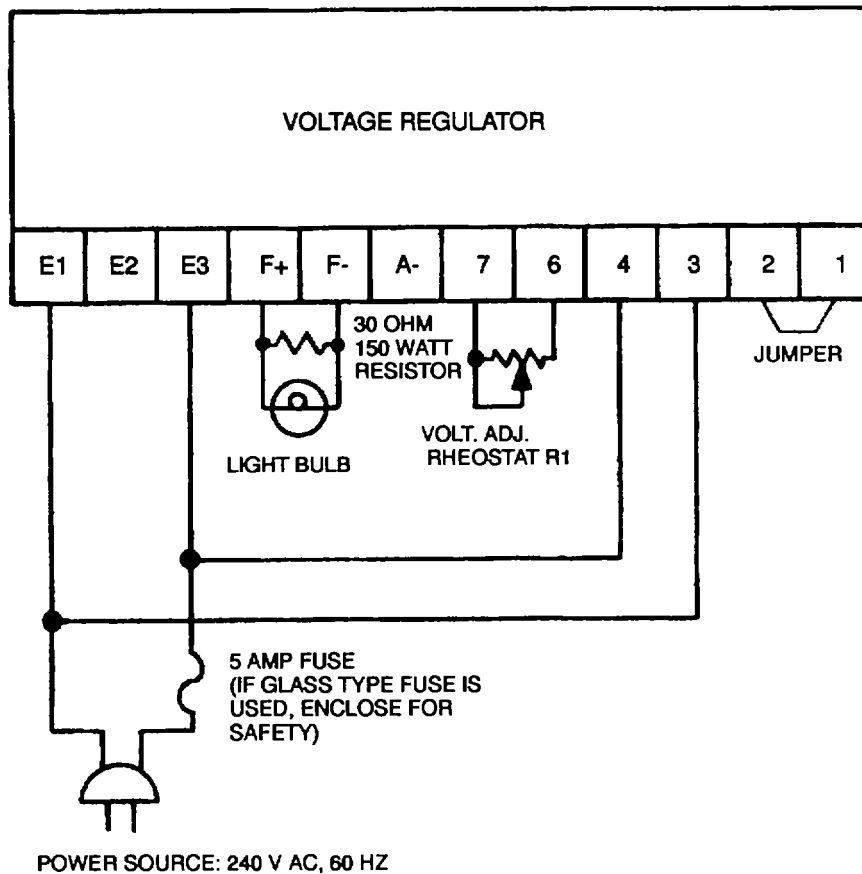

Figure 5-11. Voltage Regulator VR101, Test Setup
- (2) Connect the voltage regulator VR101 as shown in Figure 5-11.